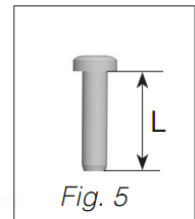

Fig. 5
- 4** Install the new STEPPER MOTOR pressure regulator assembly, as shown in Fig. 3 and Fig. 4. Use the supplied screws (F), M4 x 0.7 threaded, length of thread  $L=(16\text{ mm} + 0 - 0.5\text{ mm})$ , steel material, resistance class 8.8 (see Fig. 5).
- 6** Install the enclosed identification label (G) to the valve body where it can be easily seen.